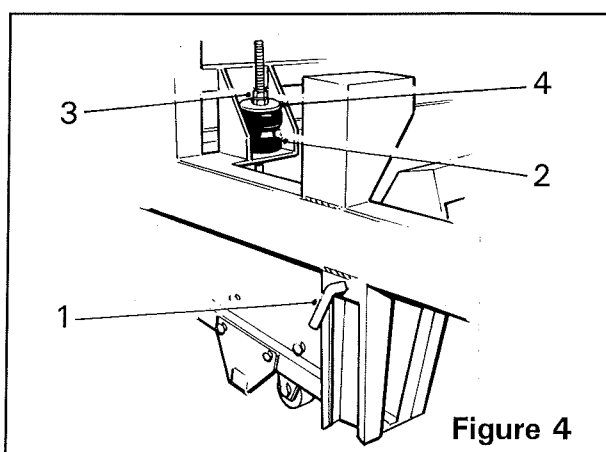
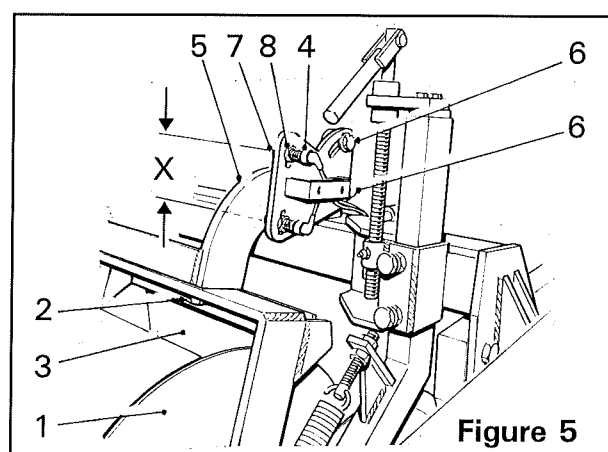

Figure 4
Figure 5
Before attempting to lower the 1st stage, ensure that the locking pins (item 1, figure 4) are in the unlocked position. To unlock the 1st stage, raise the digger web slightly and then rotate the locking pins through 90° and pull them out.
The diablo rollers (item 1, figure 5) control the digging depth while at the same time ensure even digging with the help of the dampers (item 2, figure 4). The rollers are adjustable for depth of work and for different widths of bed.
The large flanges on the outer edge of the diablo rollers assist in holding the bed together when digging. To adjust the diablo rollers for different width beds, loosen the retaining bolts (item 2, figure 5) and slide the complete units to the required position and retighten. Ensure the adjustment is made equally about the centre-line of the machine.
The diablo rollers are each fitted with a scraper (item 3, figure 5). The scrapers must be kept as close as possible to the roller to enable their efficient operation.
With the in-cab control box 'Auto Depth' switch in the 'On' position, the two proximity switches (item 4, figure 5) maintain share digging depth by constantly monitoring the height of the diablo rollers as they follow the contours of the bed. The switches sense the top and bottom edges of the sensor arm (item 5, figure 5) which in turn actuate the 1st stage rams to raise/lower the shares. When the rollers rise, the top sensor is activated causing the 1st stage to raise. When the rollers fall, the bottom sensor is activated causing the 1st stage to lower. In this way the distance between the shares and the bottom of the diablo rollers is maintained.
The depth at which the shares dig is adjusted by loosening the retaining bolts (*item 6, figure 5*) and rotating the switch plate (*item 7, figure 5*). Rotating the switch plate up will increase digging depth. Rotating the switch plate down will decrease digging depth.
The sensitivity of the depth control can be increased/decreased by altering the distance 'X' between the two proximity switches (*see figure 5*). To adjust, loosen the retaining nuts (*item 8, figure 5*) and slide the switches either closer together (for increased sensitivity) or further apart (for decreased sensitivity). Adjust both switches evenly. After adjustment, ensure a distance of approximately 1-2mm exists between the proximity switches and the sensor arm (*item 5, figure 5*). Do not overtighten.
1. Loosen and completely back-off the damper locknuts (*item 3, figure 4*) until at the top of the damper rods.
3. Check the distance 'X' between the proximity switches (*see figure 5*), this should be more than 105mm. Adjust if necessary.
4. Loosen the retaining bolts (*item 6, figure 5*) and rotate the switch plate (*item 7, figure 5*) until the proximity switches are evenly set about the sensor arm (*item 5, figure 5*). Retighten the retaining bolts.
5. Finally, turn the damper locknuts (*item 3, figure 4*) until the lower nut touches the washer (*item 4, figure 4*) and then lock it in position using the top nut. Adjust both sides equally. The automatic depth control is now set to the required digging depth.